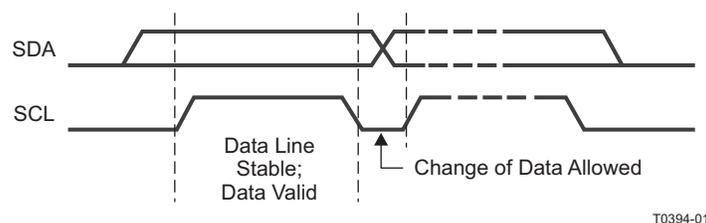
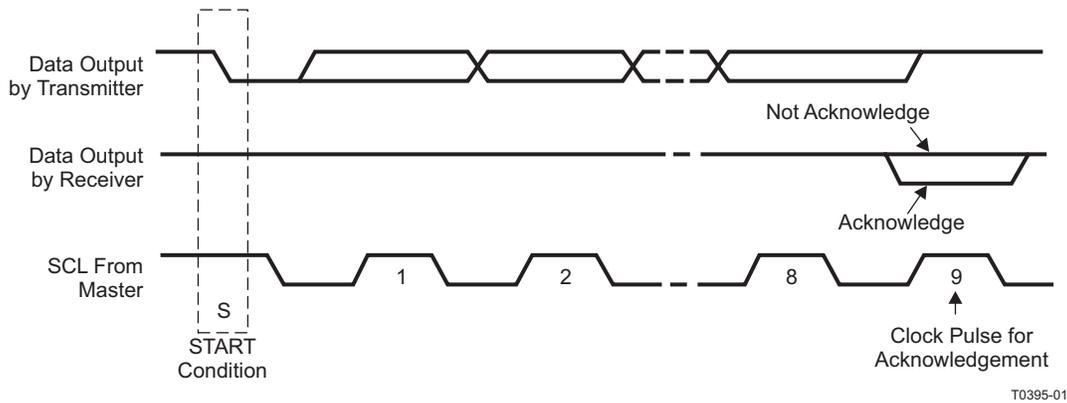

Figure 49. I²C Bit Transfer
Figure 50. I²C Acknowledge
- The master then generates the SCL pulses and transmits the 7-bit address and the *read/write direction bit* R/W on the SDA line. During all transmissions, the master ensures that data is *valid*. A *valid data* condition requires the SDA line to be stable during the entire high period of the clock pulse (see Figure 49). All devices recognize the address sent by the master and compare it to their internal fixed addresses. Only the slave device with a matching address generates an *acknowledge* (see Figure 50) by driving the SDA line low during the entire high period of the ninth SCL cycle. On detecting this acknowledge, the master knows that a communication link with a slave has been established.